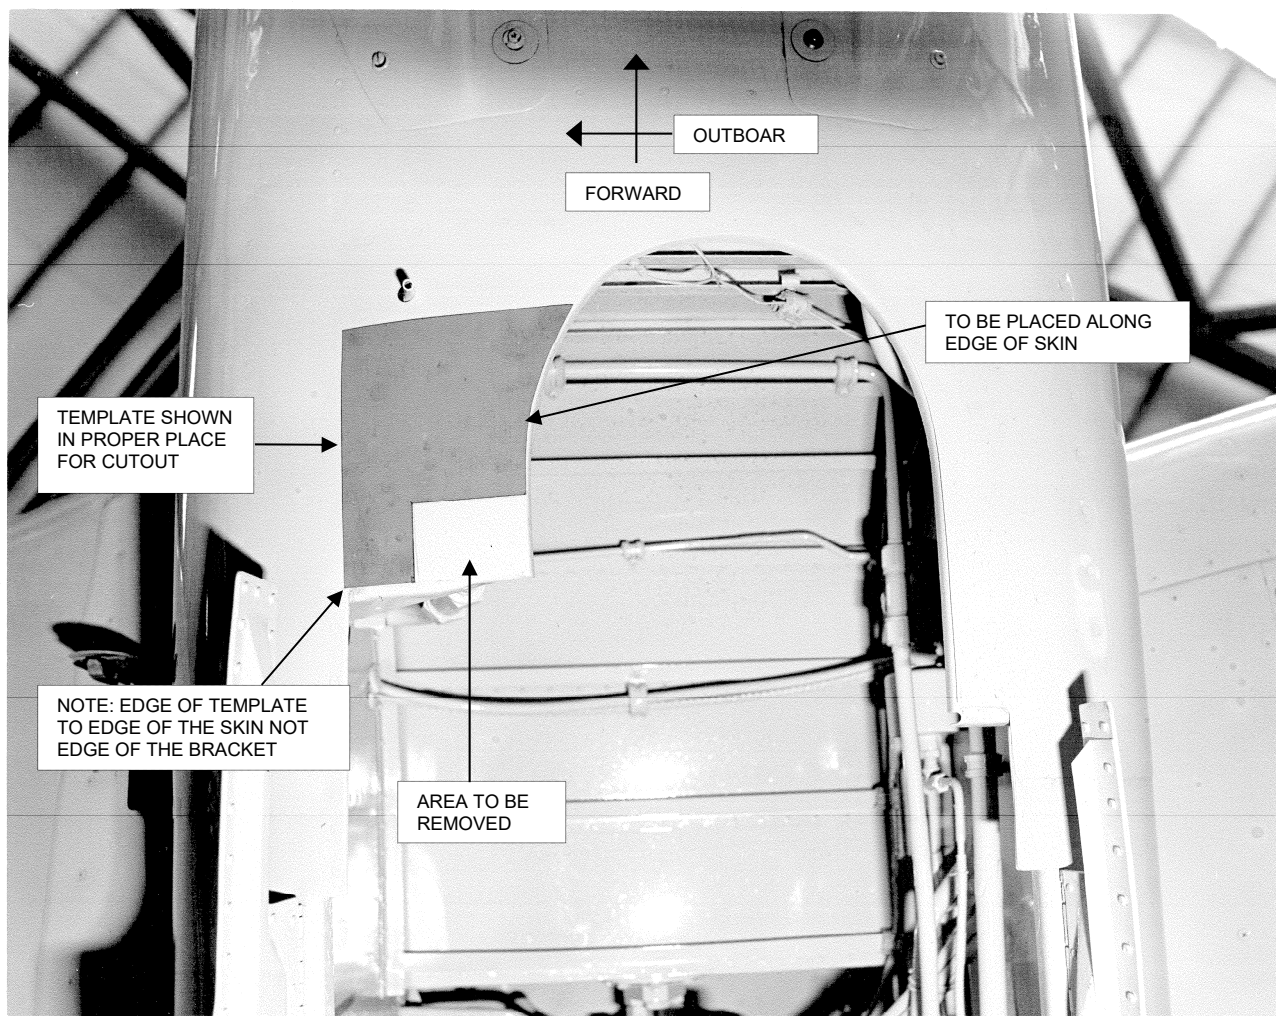

Figure 1 Mark the Skin
- a. Use Template 'A' to locate and mark the skin as shown on the installation drawing 50-80, sheet 2. Also refer to Figure 1.